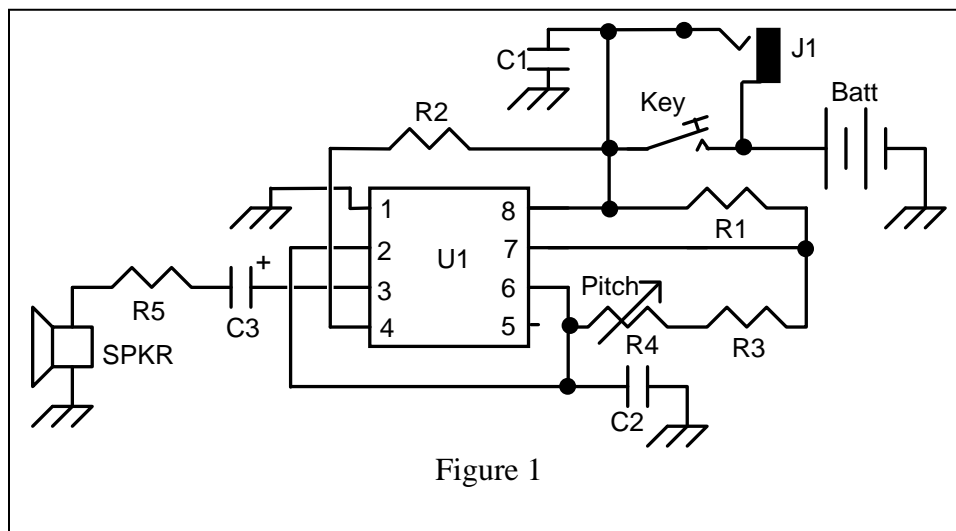

Figure 1
Simplified how it works. If you take a look at the circuit diagram in figure 1 you will see that the focal point, and main component of your CPO, is U1, a NE555 Timer integrated circuit. An integrated circuit (IC) is a collection of electronic components (transistors, resistors, etc.) that are interconnected to perform a specific task, and these components are manufactured in an integrated package (and thus the name).